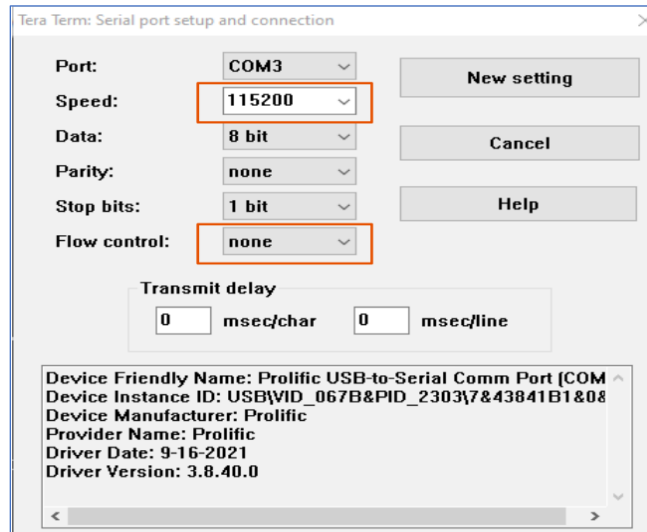
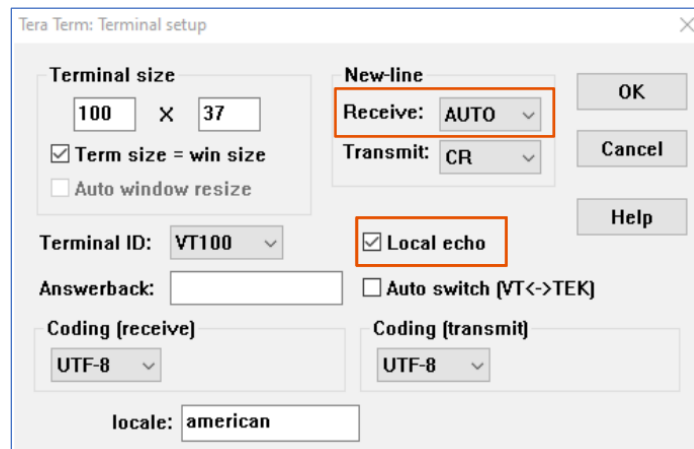

Figure 19: Terminal Program Settings, Part 1
Figure 20: Terminal Program Settings, Part 2
- Configure Tera Term VT or equivalent terminal program to the settings shown in Figure 19 and Figure 20.